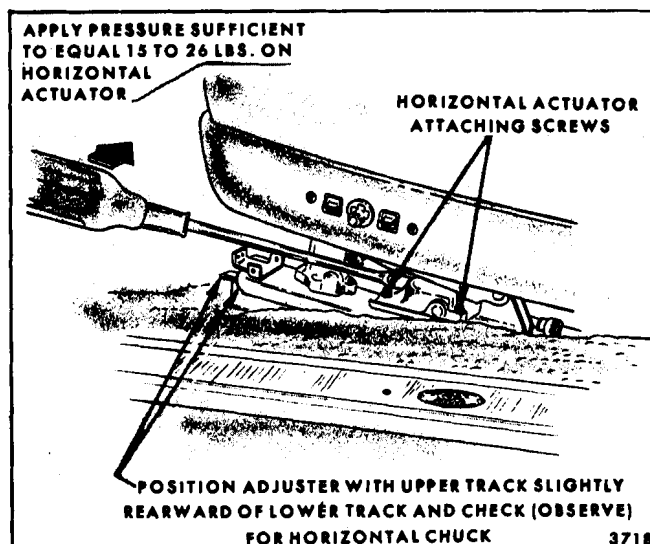

Fig. 14-17-Horizontal Actuator Adjustment-"B and C" Power Operated Six-way Seat Adjusters
2. Loosen horizontal actuator attaching screws (see Fig. 14-17). Using a large screw driver, inserted as shown in Figure 14-17 apply outward pressure on horizontal actuator (sufficient to equal 15 to 25 lbs. on horizontal actuator) and at the same time